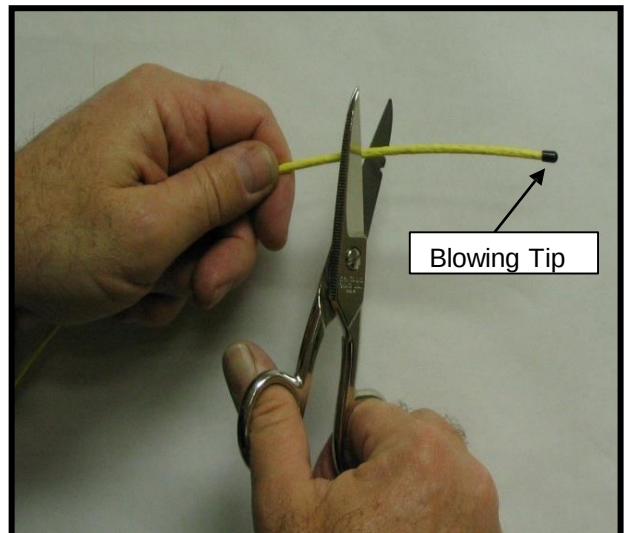

Figure 7
10.6 Remove and retain reusable Fiber Bundle Blowing Tip. **See Fig. 7.**